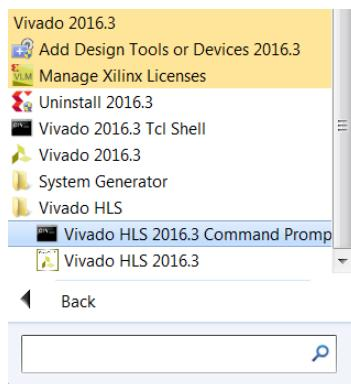

Figure 10-1: Vivado HLS Command Prompt
- On Windows use **Start > All Programs > Xilinx Design Tools > Vivado 2017.1 > Vivado HLS > Vivado HLS 2017.1 Command Prompt** (Figure 10-1).